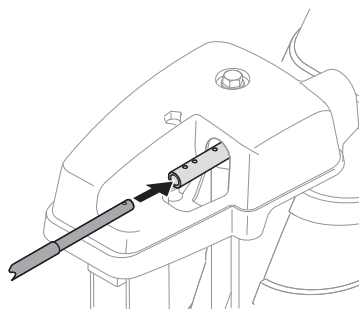

Figure 2-41
2. Insert round end of chute control rod into chute control head. Push rod as far into chute control head as possible, keeping holes in rod pointing upward. See Figure 2-41.